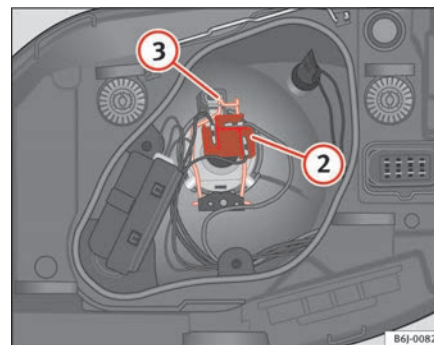

Fig. 142 Dipped beam / main beam, single light
- Remove the connector ⇒ page 218, fig. 142 ② from the bulb.
- Unclip the retainer spring ⇒ page 218, fig. 142 ③, pressing inwards to the right.